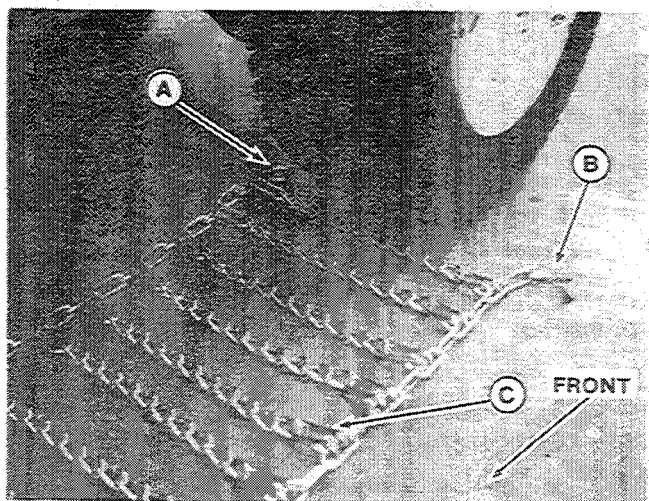

Figure 21. Position Chain
1. Lay the chain out in front of the tire with the "quick hook" (A, figure 21) and "fastener" (B) to the rear as shown. The quick hook must be on the inside and the fastener on the outside. The open sides of the cross chains must be down.